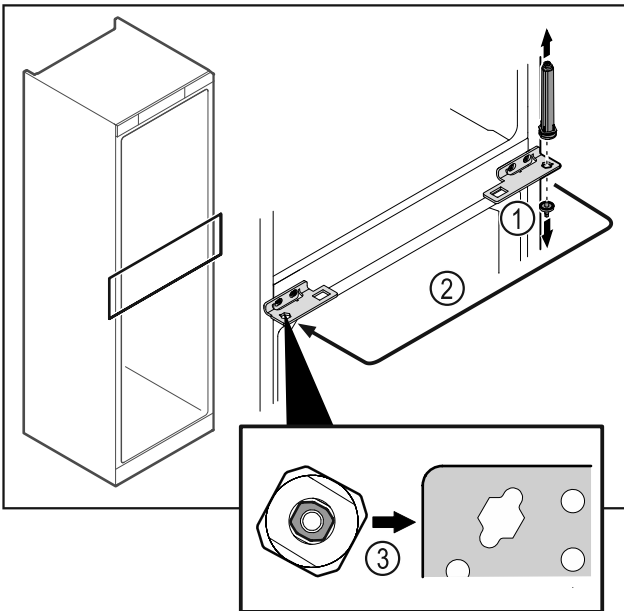

Fig. 41
- ▶ Unscrew the hinge pin Fig. 41 (1).
- ▶ Move the door closing system Fig. 41 (2).
- ▶ When inserting, make sure that the door closing system Fig. 41 (3) is aligned correctly.